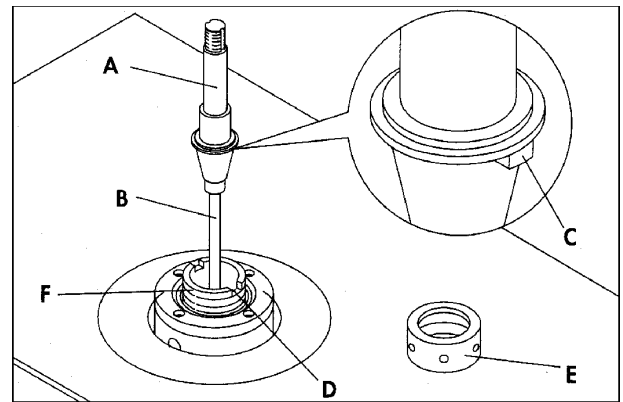

FIGURE 12
4. Thread the short threaded end of the draw bar (B) into the threaded hole in the bottom of the interchangeable spindle (A). See Figure 12. Remove the two lock nuts and the special bevel washer from the other end of the draw bar (B).
5. Carefully insert the draw bar (B) and spindle (A) down through the shaft as shown in Figure 12. Make sure the tang (C) on the spindle is engaged with the notch (D), and thread spindle nut (E) onto threads (F).